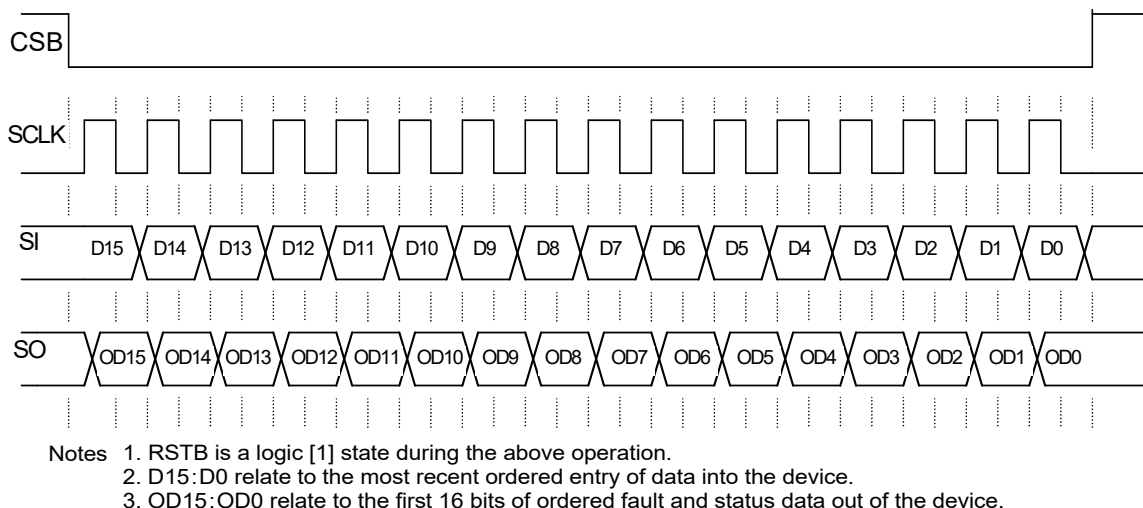

Figure 10. Single 16-bit word SPI communication
The SCLK pin clocks the internal shift registers of the 10XS3425 device. The serial input (SI) pin accepts data into the input shift register on the falling edge of the SCLK signal, while the serial output (SO) pin shifts data information out of the SO line driver on the rising edge of the SCLK signal. It is important the SCLK pin be in a logic low state whenever CSB makes any transition. For this reason, it is recommended the SCLK pin be in a logic [0] whenever the device is not accessed (CSB logic [1] state). SCLK has an active internal pull-down. When CSB is logic [1], signals at the SCLK and SI pins are ignored and SO is tri-stated (high-impedance) (see Figure 10, page 27). SCLK input has an active internal pull-down, I_{DWN} .
5.2.8 Serial input (SI)